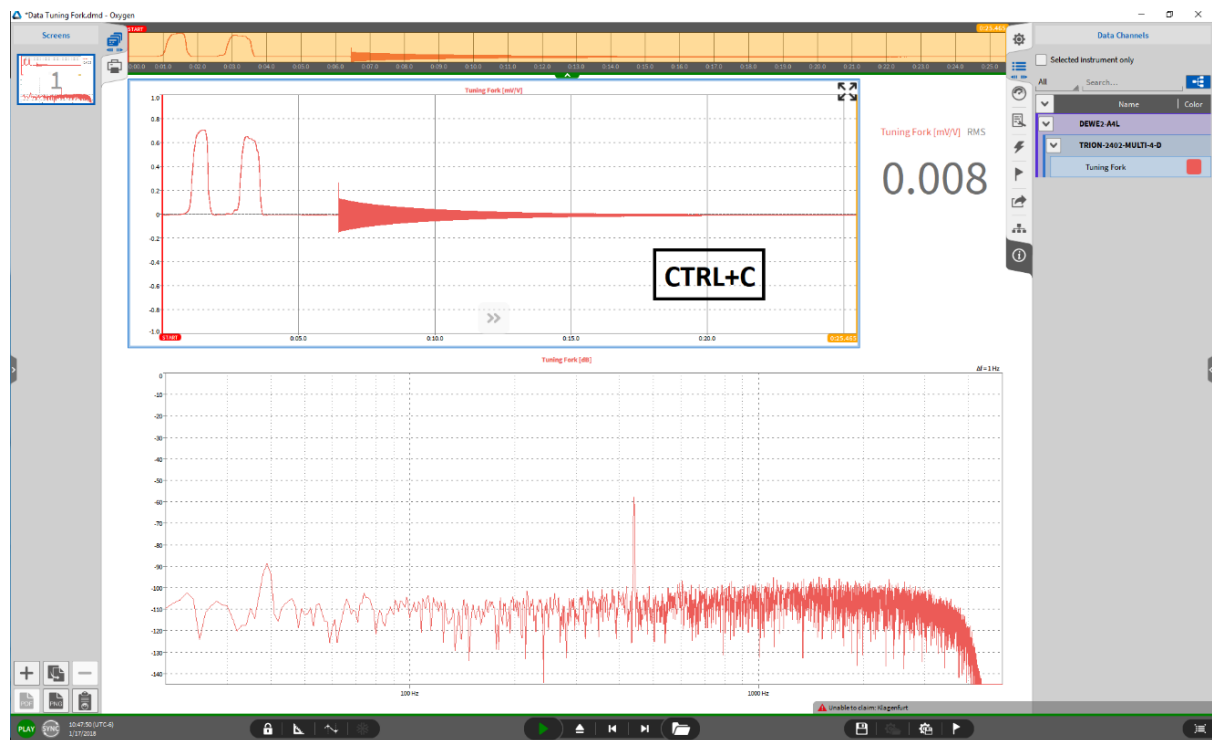
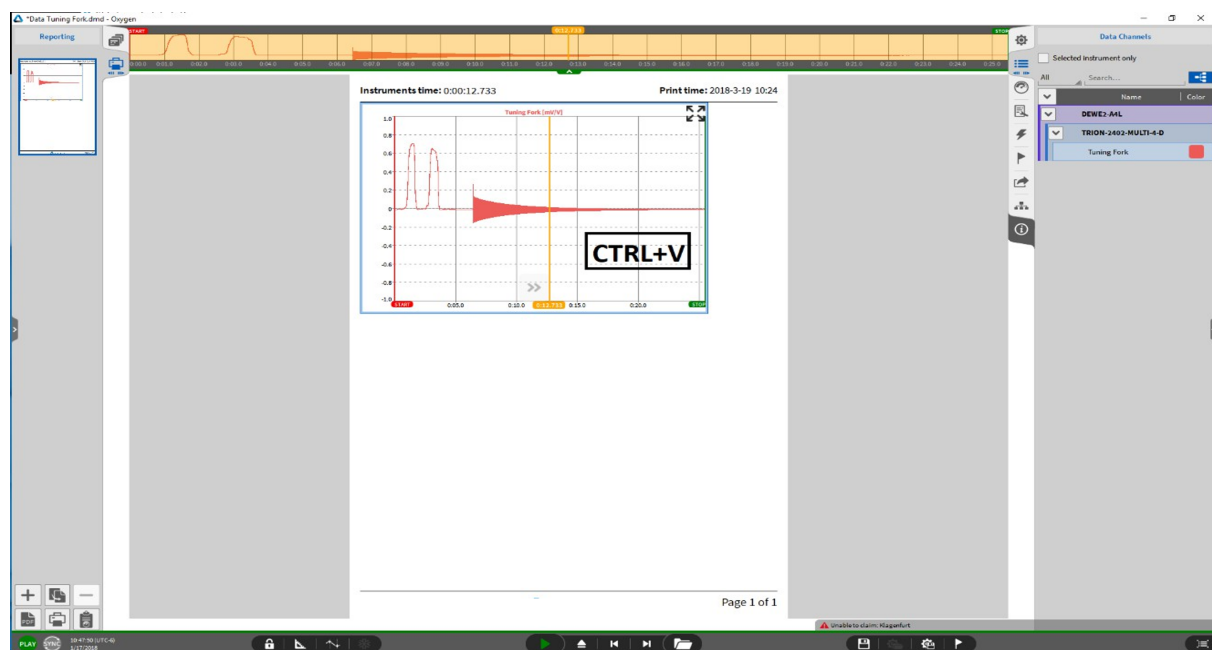

Fig. 14.6: Copying single instruments from the measurement screen...
Fig. 14.7: ... to the report page
- Select and copy single instruments from the measurement screen via **CTRL+C** (see Fig. 14.6) and paste it to the report page via **CTRL+V** (see Fig. 14.7).